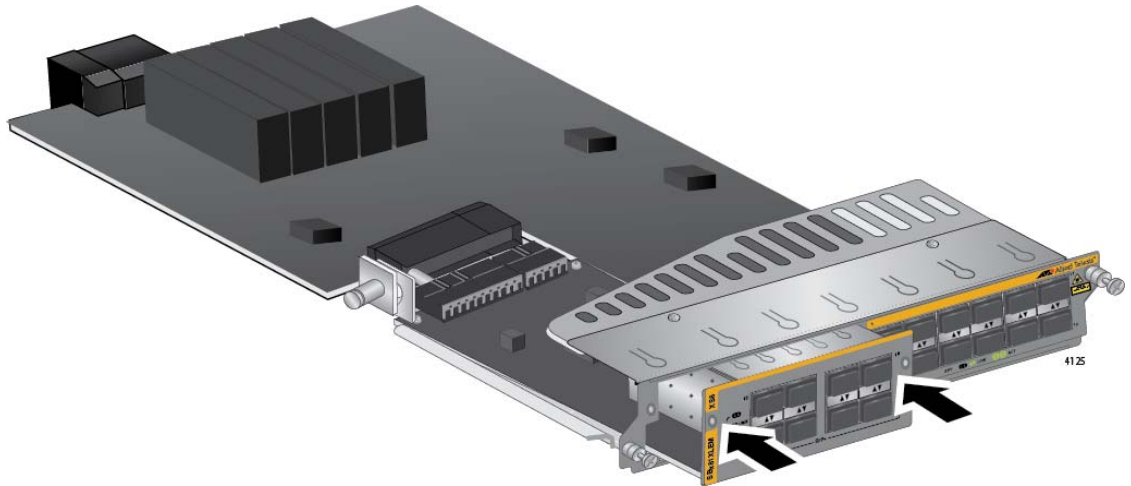

Figure 84. Seating the Expansion Module on the Connector in the AT-SBx81XLEM Line Card
- When the expansion module makes contact with the connector inside the line card, gently press on both sides of the faceplate to seat the module on the connector. Refer to Figure 84 on page 157. The module is fully installed when its faceplate is flush against the faceplate of the AT-SBx81XLEM Line Card.